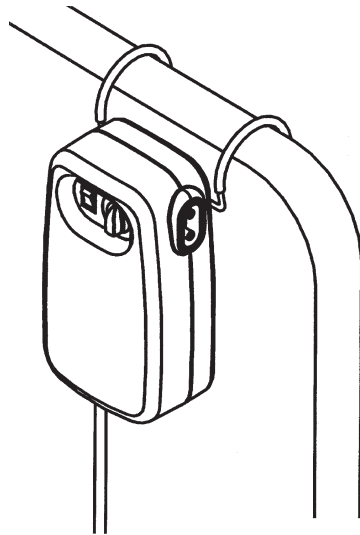

Figure 2—Use of hanging bracket
3. Connect hose assembly to pump and pad. The hose ends with fittings connect to the pad. Place the pump on a bedside cabinet or hang it on the foot board. See figure 2. Pump may also set on the floor.